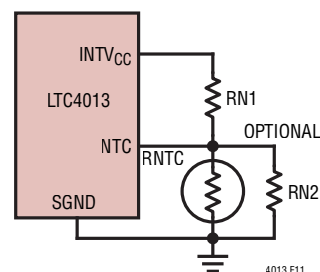

Figure 11. NTC Configuration for Temperature Compensation
As mentioned the LTC4013 uses a charge voltage method that can be used to shift the charge voltage as a function of temperature. In the simplest view the voltage ($V_{NTC} - V_{INTVCC}/2$) is multiplied by 0.21 and added to the charge voltage. Figure 11 shows how to configure the pin and Table 10 shows some common temperature coefficient (TC) and associated resistor settings using 10k, $B = 3380$ NTC resistor. Note TC is with respect to the charge voltage at FB which is roughly 1 cell of a lead acid battery.